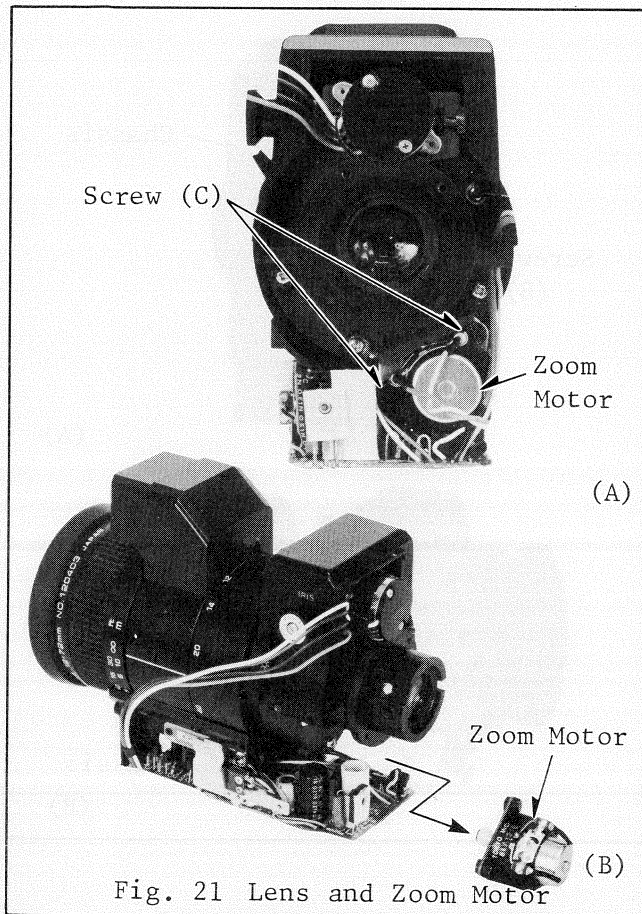

Fig. 21 Lens and Zoom Motor
5-4. Then, unscrew 2 screws (C) and remove the zoom motor (see Fig. 21-A/B).